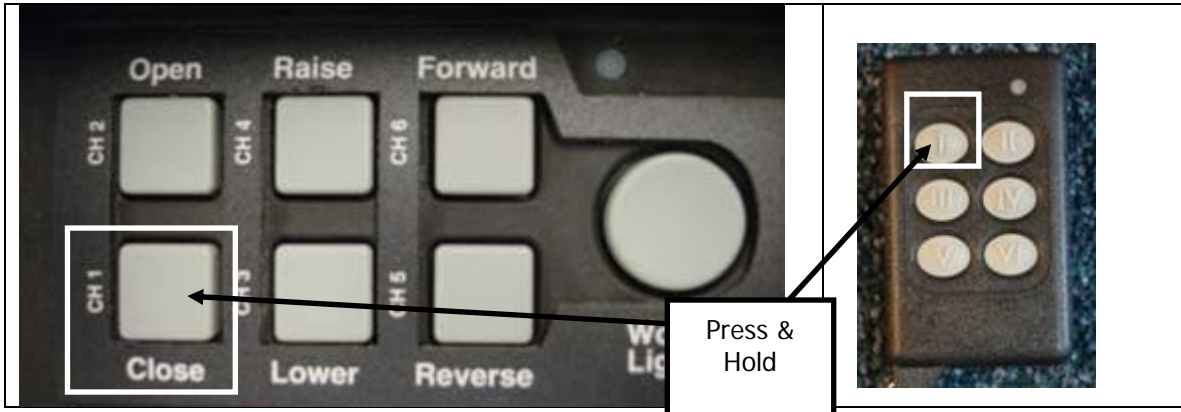

Figure 11
- 3) Deploy tarp and walk tarp to rear of container. To deploy tarp press & hold button 1 on the control box or the key fob (see Fig. 11), or on non remote systems there will be switch to wind and unwind your tarp. In rare cases with stationary pivot systems you may have to do this before pulling container all the way onto the truck/trailer.